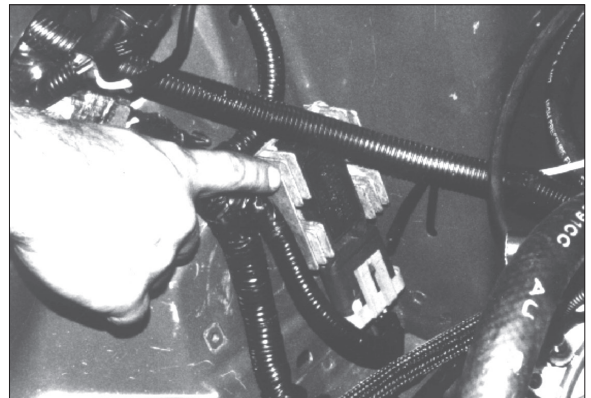

Fig. 8-a
- C. Using the original threaded hole closest to the shock tower, rotate the ignition module 180° and mount with the bolt and sheet metal screw provided (see Fig. 8-a).